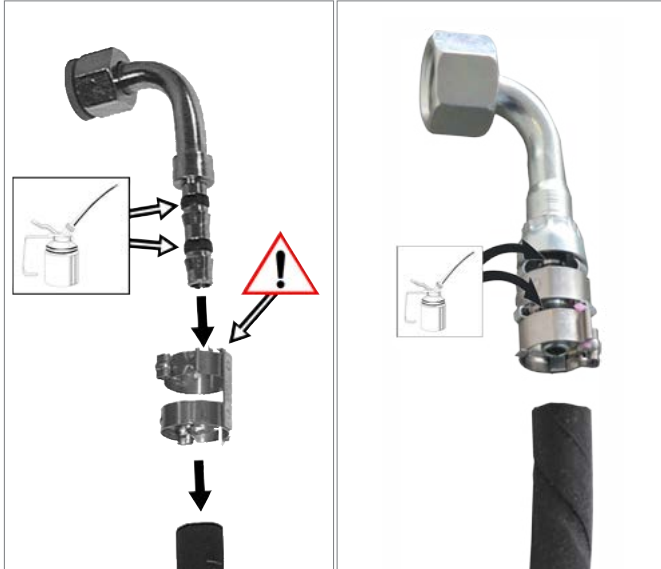

Fig. 42: Fitting with separate clamp Fig. 43: Fitting with fixed clamp
See chapter Fig. 42 on page 20 for assembling instructions hoses and coupling
1. Fitting with separate clamp see Fig. 42